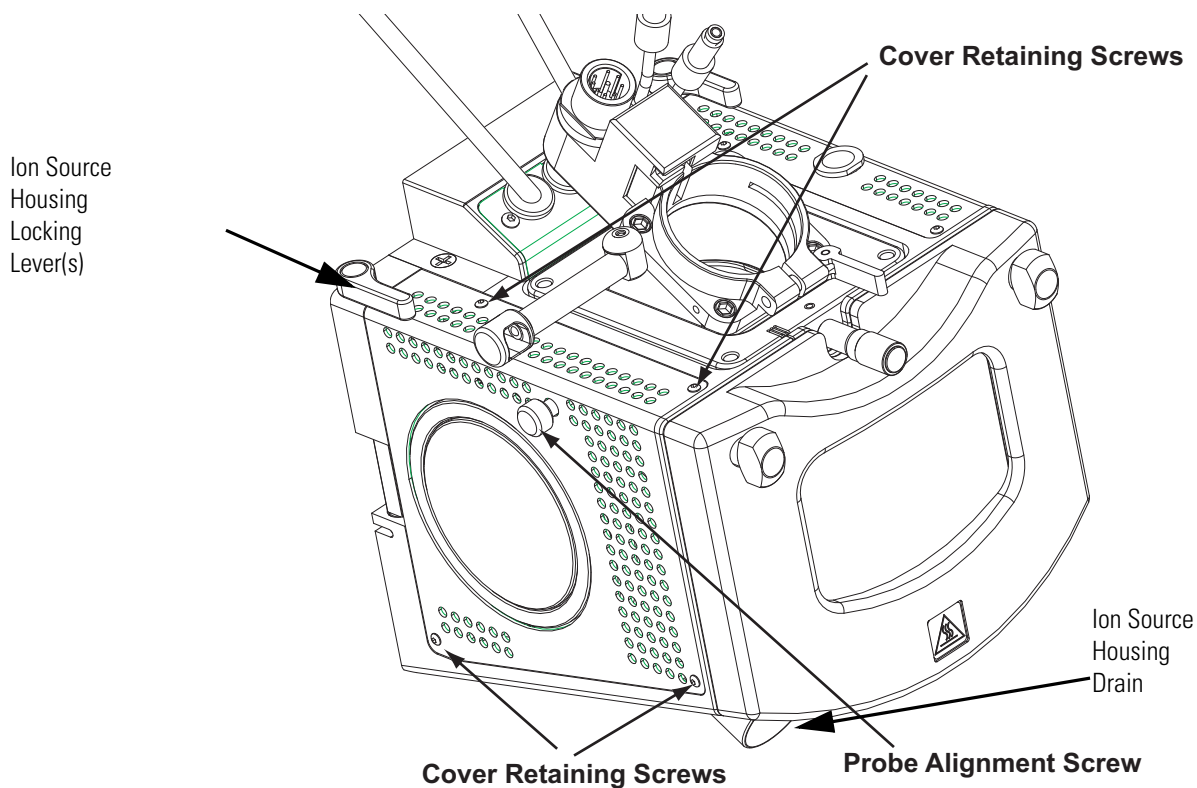

Figure 13. Ion Max ion source, showing details of components
1. Remove the drain tube from the ion source housing drain. See Figure 13.